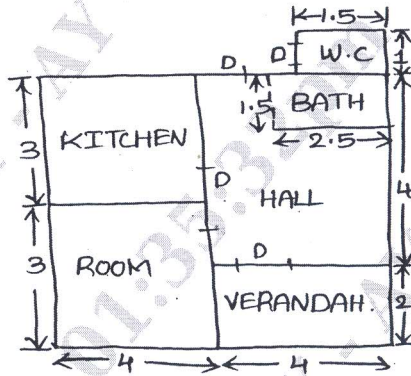

Fig.Q2(b)
b. The Fig.Q2(b) shows the plan of a LIG Govt. quarter. Draw the single line diagram for lighting and heating circuits on the sketch. Calculate total load; length and size of the wire by taking safety factor equals to two (14 Marks)